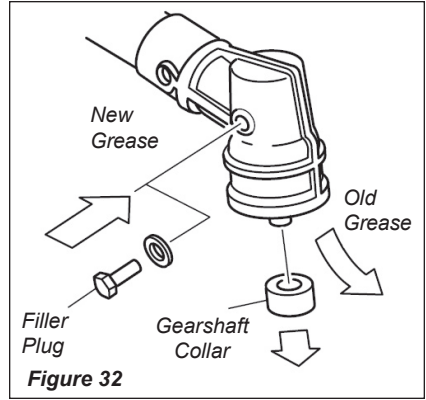

Figure 32
- Remove the cutting attachment, cutting attachment holder and gear shaft collar. Remove the filler plug from the side of the gearcase and press new grease into the gearcase until grease is pushed out. Use only lithium-base grease such as Shindaiwa Gearcase Lubricant or equivalent. See Figure 32.